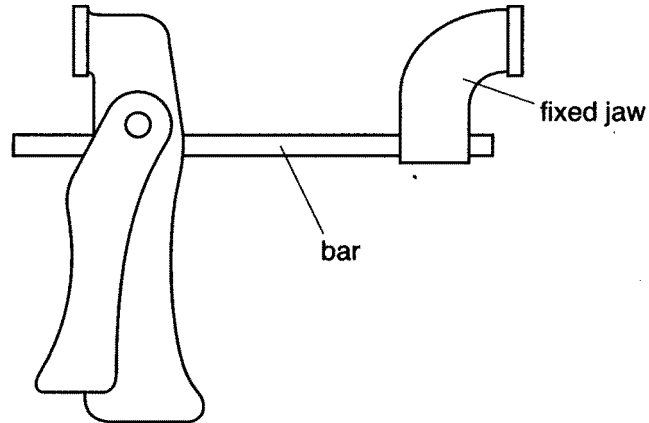

Fig. 3
- (d) Fig. 3 shows the trigger operated clamp in use as a spreading tool. This can be achieved by removing the fixed jaw and replacing it at the other end of the bar.